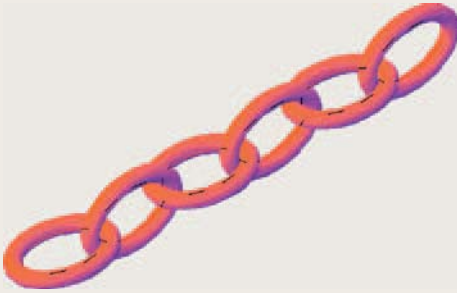

Fig. 13.15 Exercise 3
3. Each link of the chain shown in Fig. 13.15 has been constructed using the tool **Extrude** and extruding a small circle along an elliptical path. Copies of the link were then made, half of which were rotated in a **Right** view and